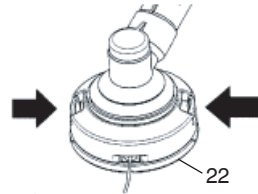

Fig. 26
- (1) Remove the case (22) by firmly pushing inward the locking tabs with your thumbs as shown in Fig. 26.